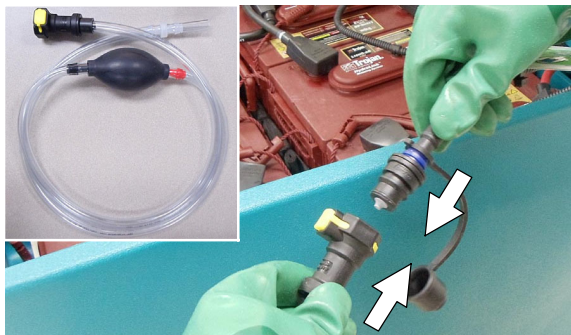

FIG. 138
3. Locate the battery fill hose coupler inside the battery compartment. Remove the dust cap and connect the hand pump hose (Figure 138).